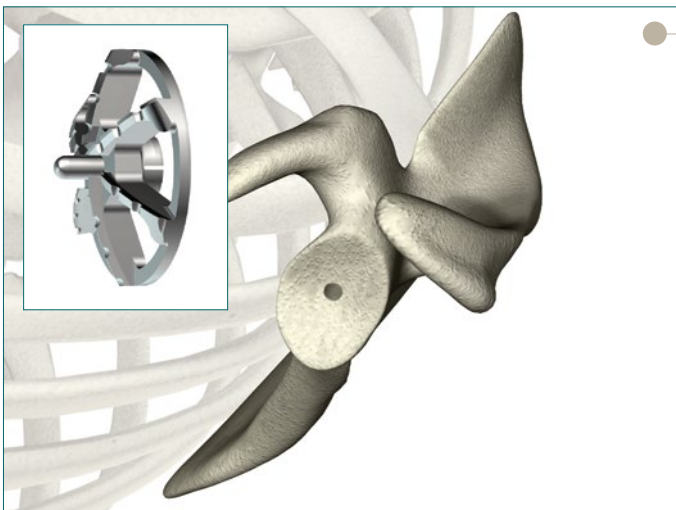

Figure 8
- ▶ The previously prepared center hole will accept the stabilizing post of the spherical glenoid reamer during glenoid contouring (Figure 8, Inset).